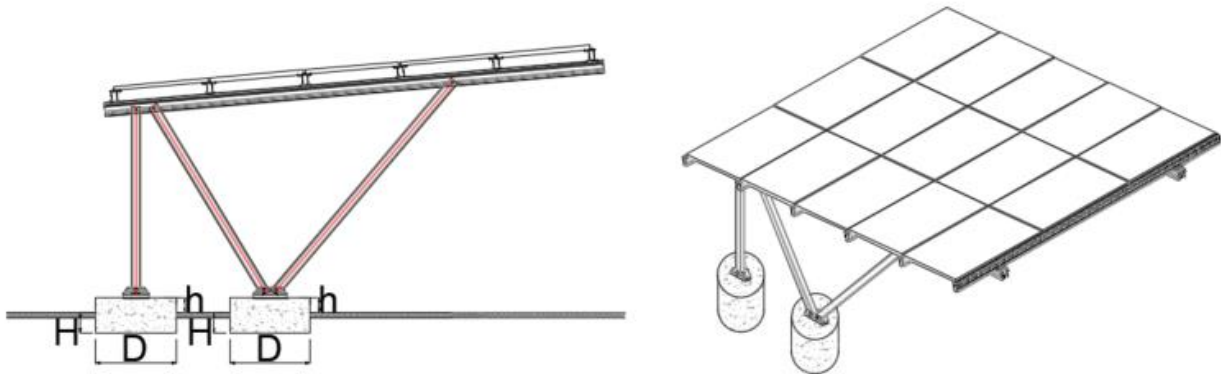

Figure 3. Elevated above ground individual pier foundation
- Note 13** If the footing is raised the elevation above ground for individual pier footings must not exceed 400 mm (h in figure 3). Refer to Clenergy for reinforcement details.